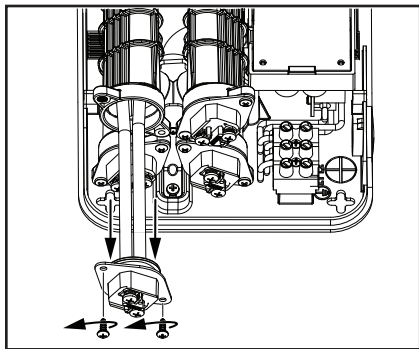

Figure 13 - Removing the element(s).
**3** With the element wires out of the way, use a Phillips screwdriver to remove the two mounting screws securing the element in the chamber. Place the tip of a flat head screwdriver between the element mounting bracket and chamber housing to gently pry the element away from the chamber. Pull the element down and out of the chamber. Use a towel to clean up any water that might spill from the chamber. See Figure 13.